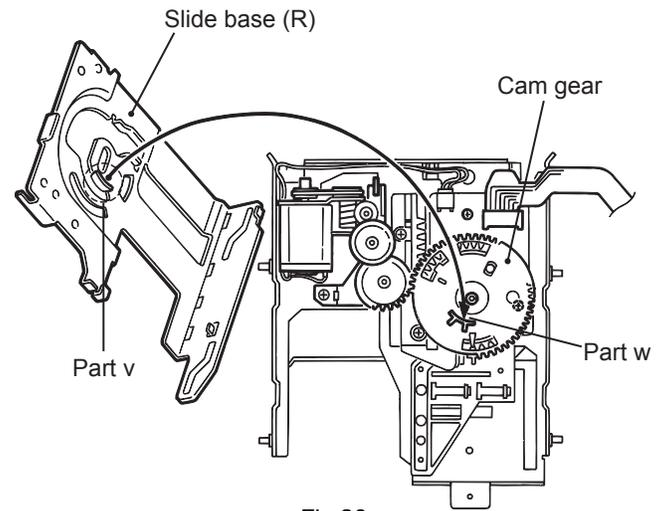
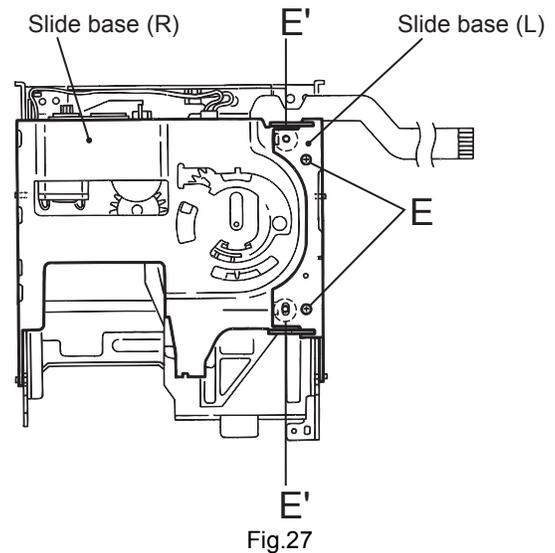

Fig.26
Fig.27
Fit the part v of the slide base (R) to the part w on the inward side of the cam gear rib. (Fig.26)
- (10) Reattach the slide base (L) on the slide base (R) while fitting the two pins on another side of the UD base to the slots of the slide base (L) (Fig.26). Make sure the two slots of the slide base (L) are fitted to the two bosses marked E' and tighten the two screws E. (Fig.27)